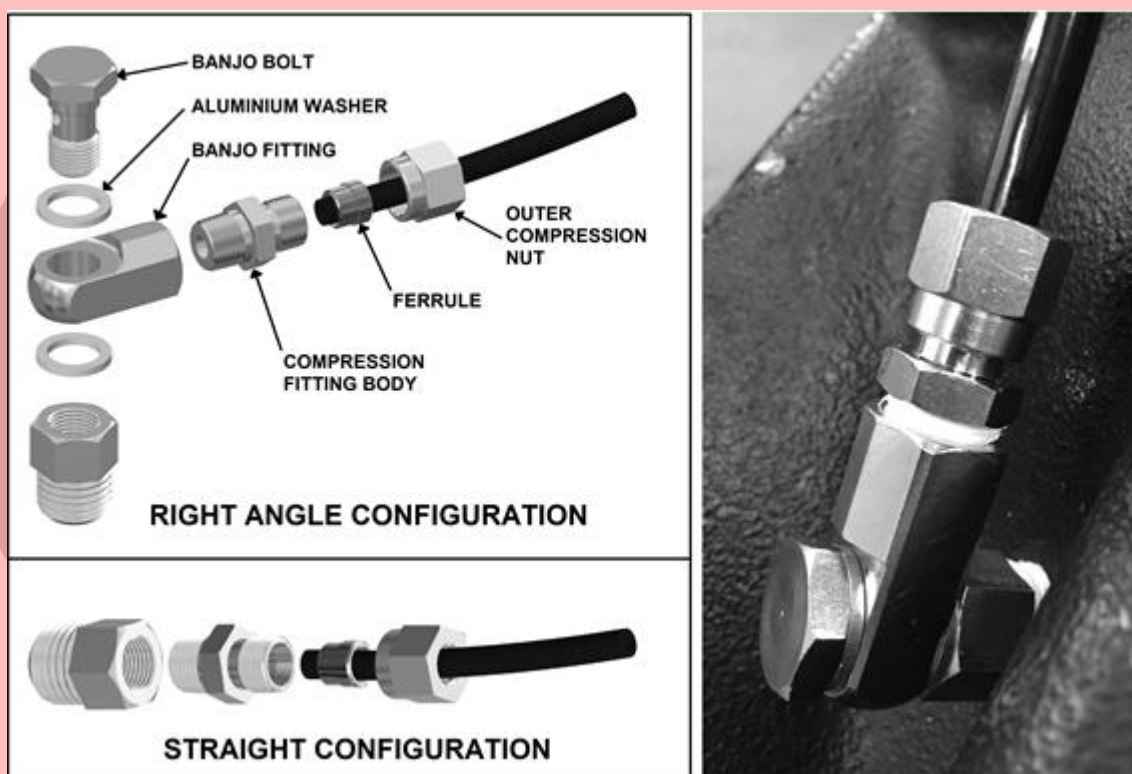

Figure 14. Air Locker bulkhead fitting assembly (170114)
- ☐ Insert the outer compression nut and ferrule over the air line. Ferrule should be oriented as per Figure 14.
- NOTE:** When right angle routing of the tube is not required, screw the compression fitting body straight into the bulkhead fitting body (Figure 14).